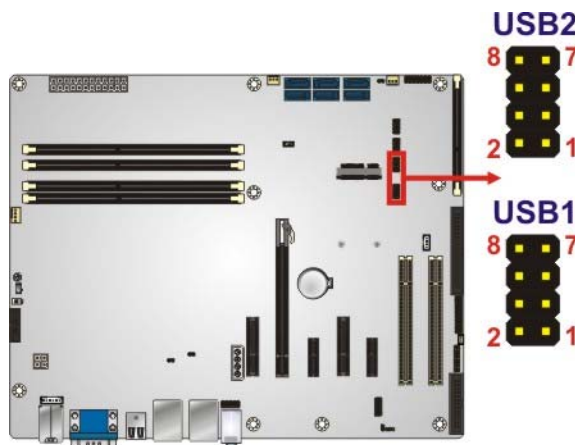

Figure 3-33: USB 2.0 Connector Pinout Locations
- CN Location:** See **Figure 3-33**